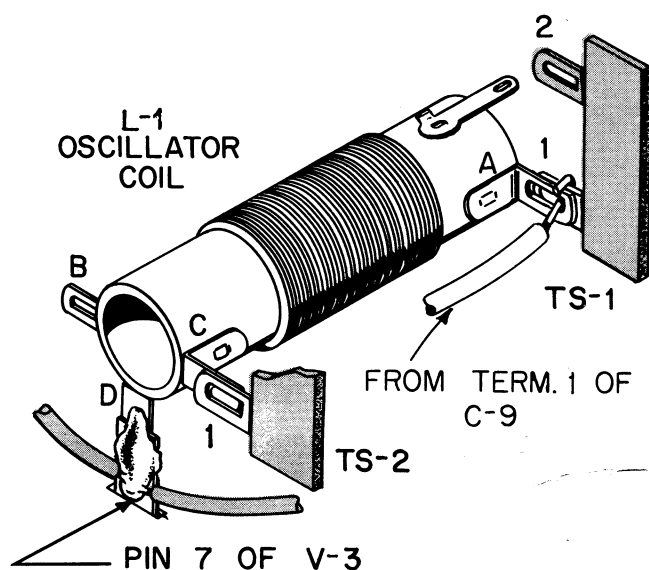

FIGURE 7. MOUNTING THE OSCILLATOR COIL
- ☒ With your pliers, bend the coil terminals as shown in Figure 7.
SEE FIGURES 7 AND 8